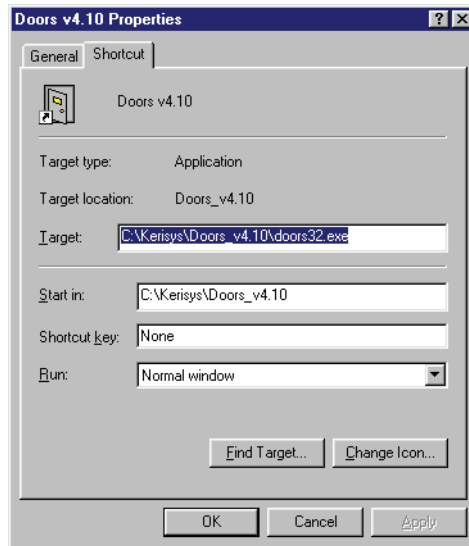

Figure 1-5: Doors Shortcut Properties Window
- Right click on the shortcut and select “Properties.” The Properties window will appear (see Figure 1-5 on page 13 of this section).